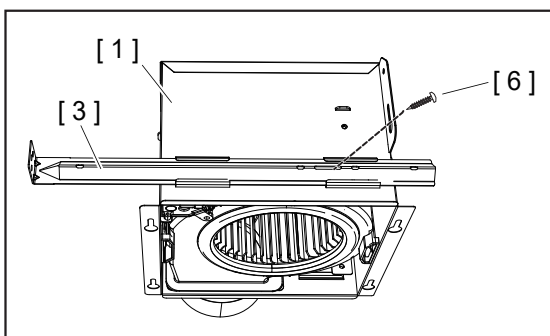

Fig 9
5. Install one Short Screw [6] to the hole of the Long Bracket [3] and secure. The hole should be close to the center of Fan Body [1]. (Fig 9)